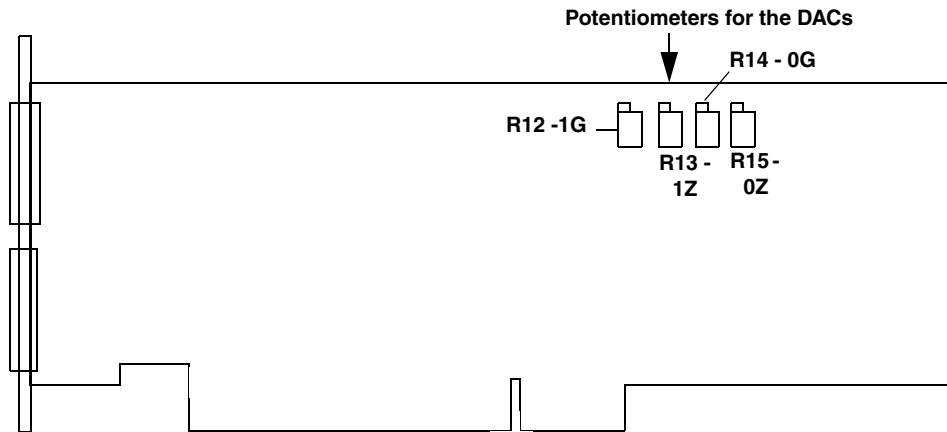

Figure 78: Location of Potentiometers R12 to R15 on the DT3010, DT3010-268, DT3010/32, and DT3010/32-268
8. Physically adjust potentiometer R15 (labelled 0Z) on the DT3010, DT3010-268, DT3010/32, or DT3010/32-268 board until the display reads -9.3750 V (within 0.001 V). Figure 78 shows the location of this potentiometer.
10. Physically adjust potentiometer R14 (labelled 0G) on the DT3010, DT3010-268, DT3010/32, or DT3010/32-268 board until the display reads +9.3750 V (within 0.001 V). Figure 78 shows the location of this potentiometer.
13. Physically adjust potentiometer R13 (labelled 1Z) on the DT3010, DT3010-268, DT3010/32, or DT3010/32-268 board until the display reads -9.3750 V (within 0.001 V). Figure 78 shows the location of this potentiometer.
15. Physically adjust potentiometer R12 (labelled 1G) on the DT3010, DT3010-268, DT3010/32, or DT3010/32-268 board until the display reads +9.3750 V (within 0.001 V). Figure 78 shows the location of this potentiometer.